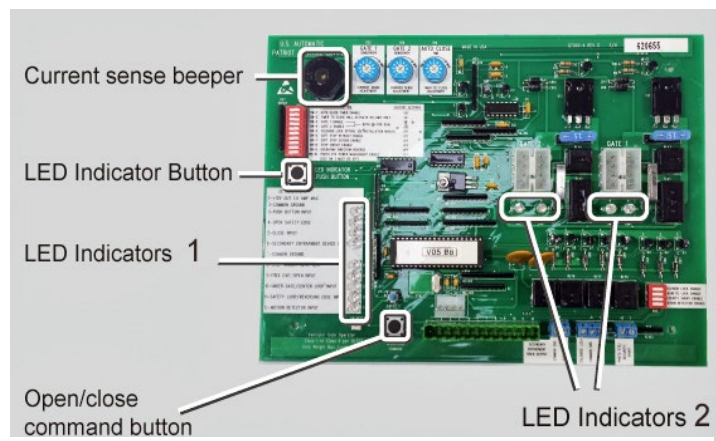

Figure 2 – Control Board
1.2 These LEDs are normally unlit; to illuminate them you should press the LED Indicator Push Button on the left-hand side of the board as shown in Figure 2.